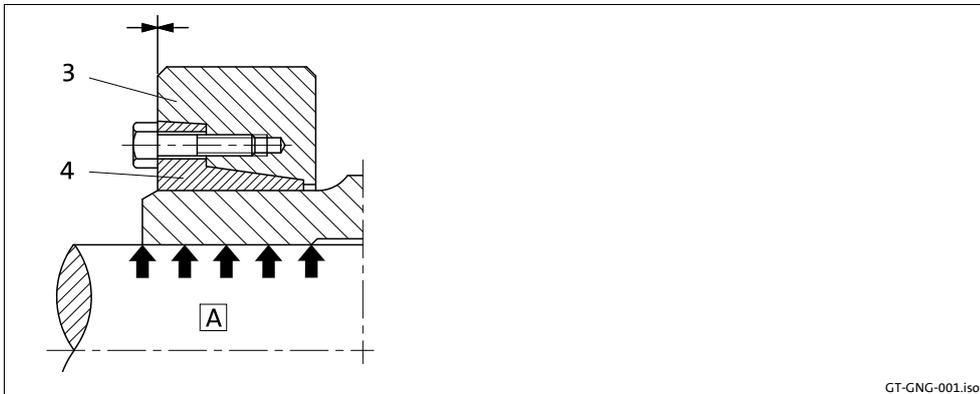

Fig. 9 Hollow shaft with shrink disc
The shrink disc is mounted correctly and fixed when the faces of the outer ring and the inner ring are aligned (Fig. 9). Minimum misalignments are permissible.
1. Remove protective cap (1).
2. Loosen clamping screws (2) evenly one after the other each by  $\frac{1}{4}$  revolution in several passes. Do not unscrew clamping screws completely to prevent accidents!
3. Press off outer ring (see Fig. 9), if necessary. For this, loosen the outer ring using the forcing threads and some clamping screws (number corresponding to the forcing threads in the inner ring). For loosening the outer ring, screw in the screws evenly to prevent canting. Press off the outer ring until loosened completely.